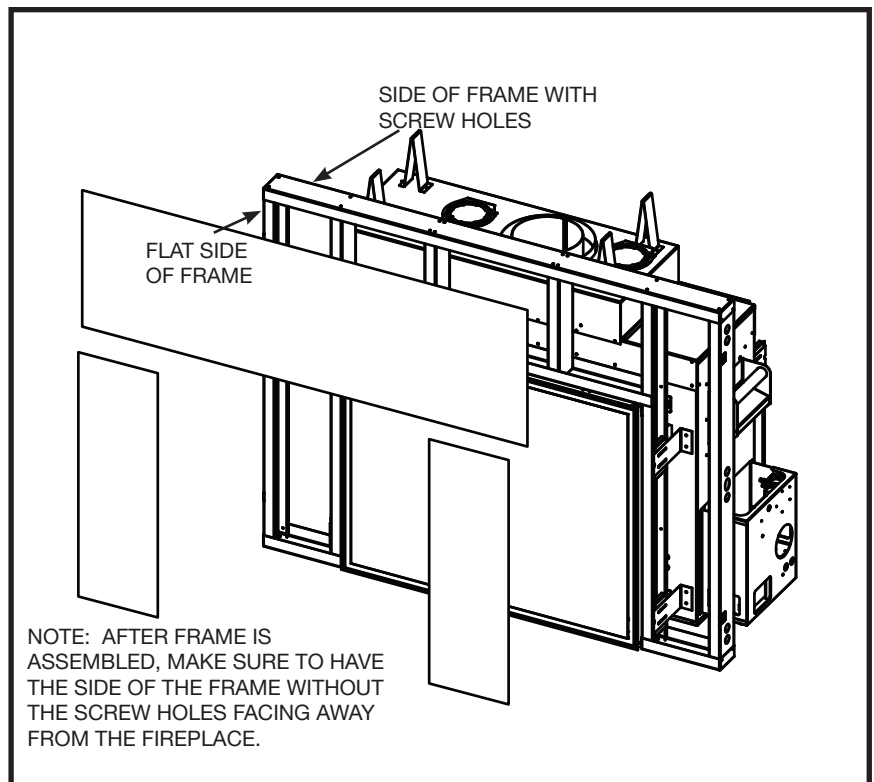

Figure 18: TC36ST With cement board.
Align the assembled frame to the unit framing brackets with the flat side facing outward into the rooms (Figure 18). Align the framing plates (8) to the fastening points through the access holes in the outer side studs (3).
4. Secure to Existing Framing. Secure the frame assembly to existing framing through the horizontal top stud (5) and the base plates (7).